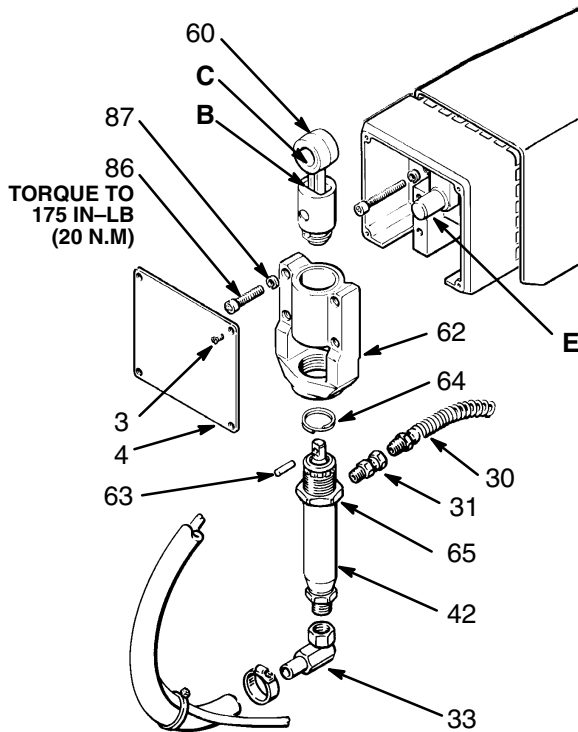

Fig 34-1
Refer to Fig 34-1 unless otherwise indicated.
12. Reinstall the front cover and screw (4,3). Reconnect the swivel union (33) and pump outlet hose (30). See Fig 34-1.